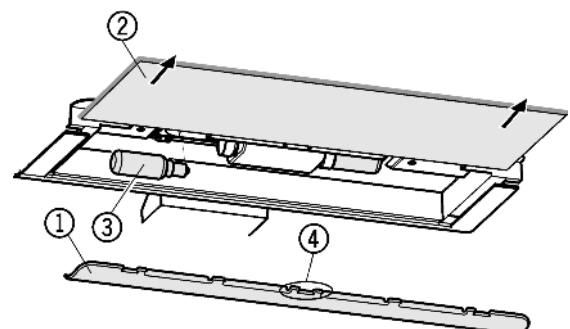

Fig. 13
- ▶ To remove the cover Fig. 13 (1): put your finger behind the cover and disengage it.
- ▶ Pull out the glass shelf Fig. 13 (2).
- ▶ Change the bulb Fig. 13 (3).
- ▶ Attach the cover again, engage it at the right and left and pay attention that the middle hook *Fig. 13 (4)* grips over the glass shelf.